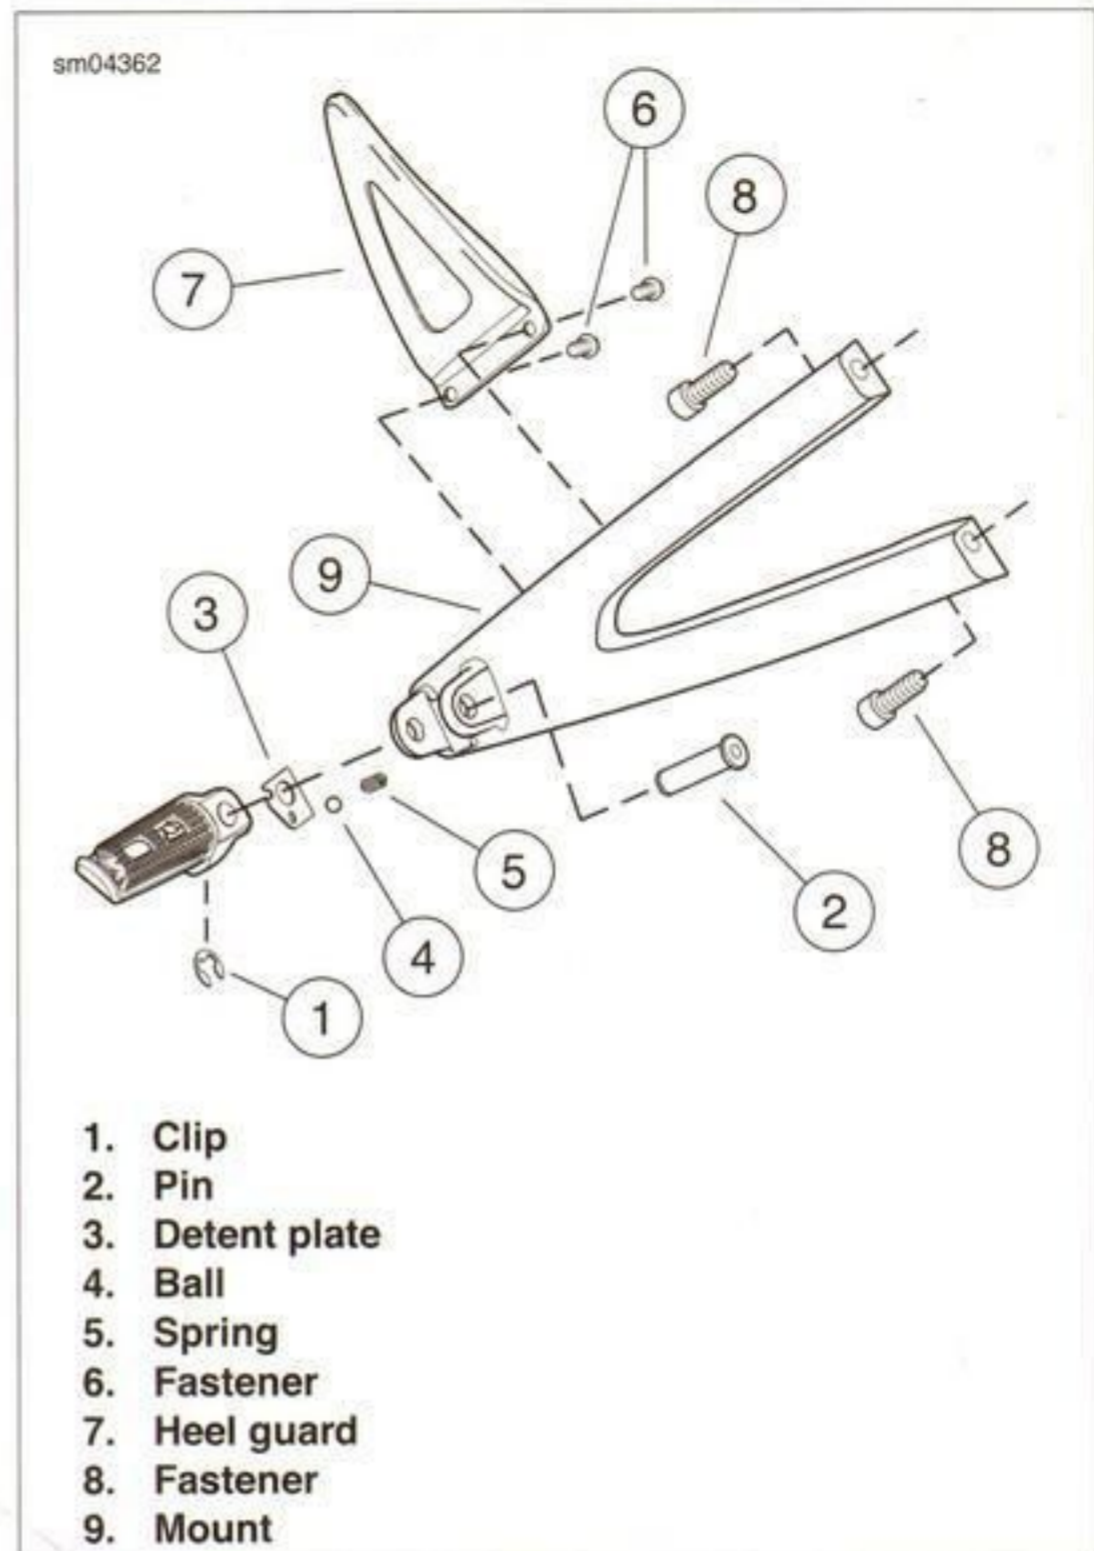

Figure 2-157. Passenger Footpeg Assembly
1. See Figure 2-157. Remove clip (1).
2. Remove footpeg pin (2).
3. Remove footpeg, detent plate (3), ball (4) and spring (5).
- See Figure 2-157. Remove heel guard fasteners (6) and heel guard (7).
- See Figure 2-157. Remove footpeg mount fasteners (8).
- Remove footpeg mount (9).